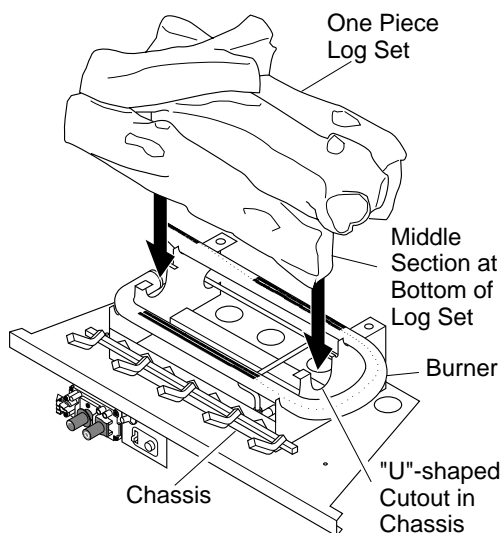
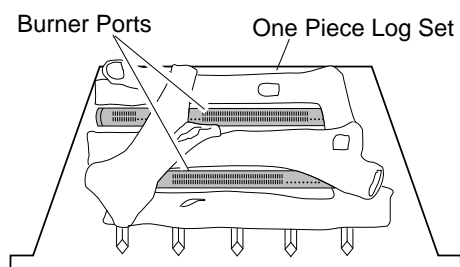

Figure 23 - Installing One Piece Log Set
Figure 24 - Installing One Piece Log Set (Top View)
1. Place one-piece log set on grate to fit as illustrated in Figure 23. Make sure middle section at bottom of log set is seated into "U"-shaped cutout in center of chassis (see Figure 24). **IMPORTANT:** Make sure log does not cover any burner ports.